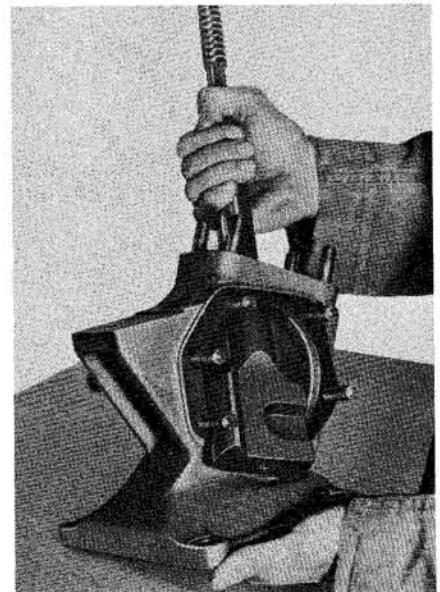

Fig. FO502—To remove the steering worm shaft from main housing, remove lower stud and withdraw shaft through side opening as shown.
Unstake and remove the six nuts retaining the left rocker shaft housing (15) to the main housing and remove the housing and left rocker shaft (13). Keep the adjusting shims (14) together in a safe place to avoid damage to the shims. Remove the lower stud from the main housing and remove the steering worm shaft from the side opening as shown in Fig. FO502.